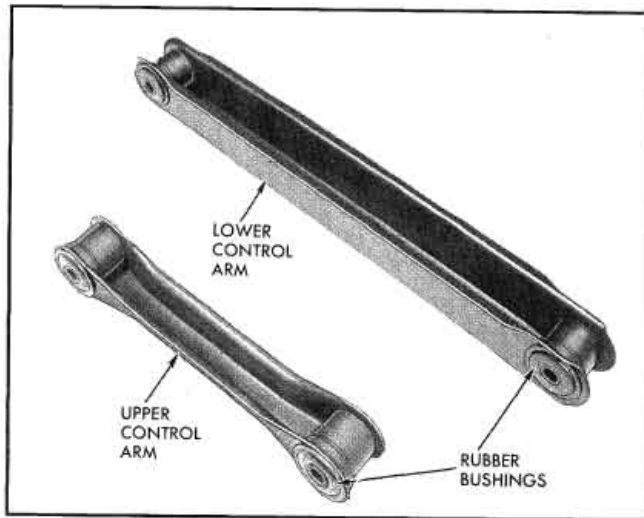

Fig. 3-33 Rear Upper and Lower Control Arm Bushings
4. Clean and inspect rubber bushings (Fig. 3-33) and, if worn, replace.